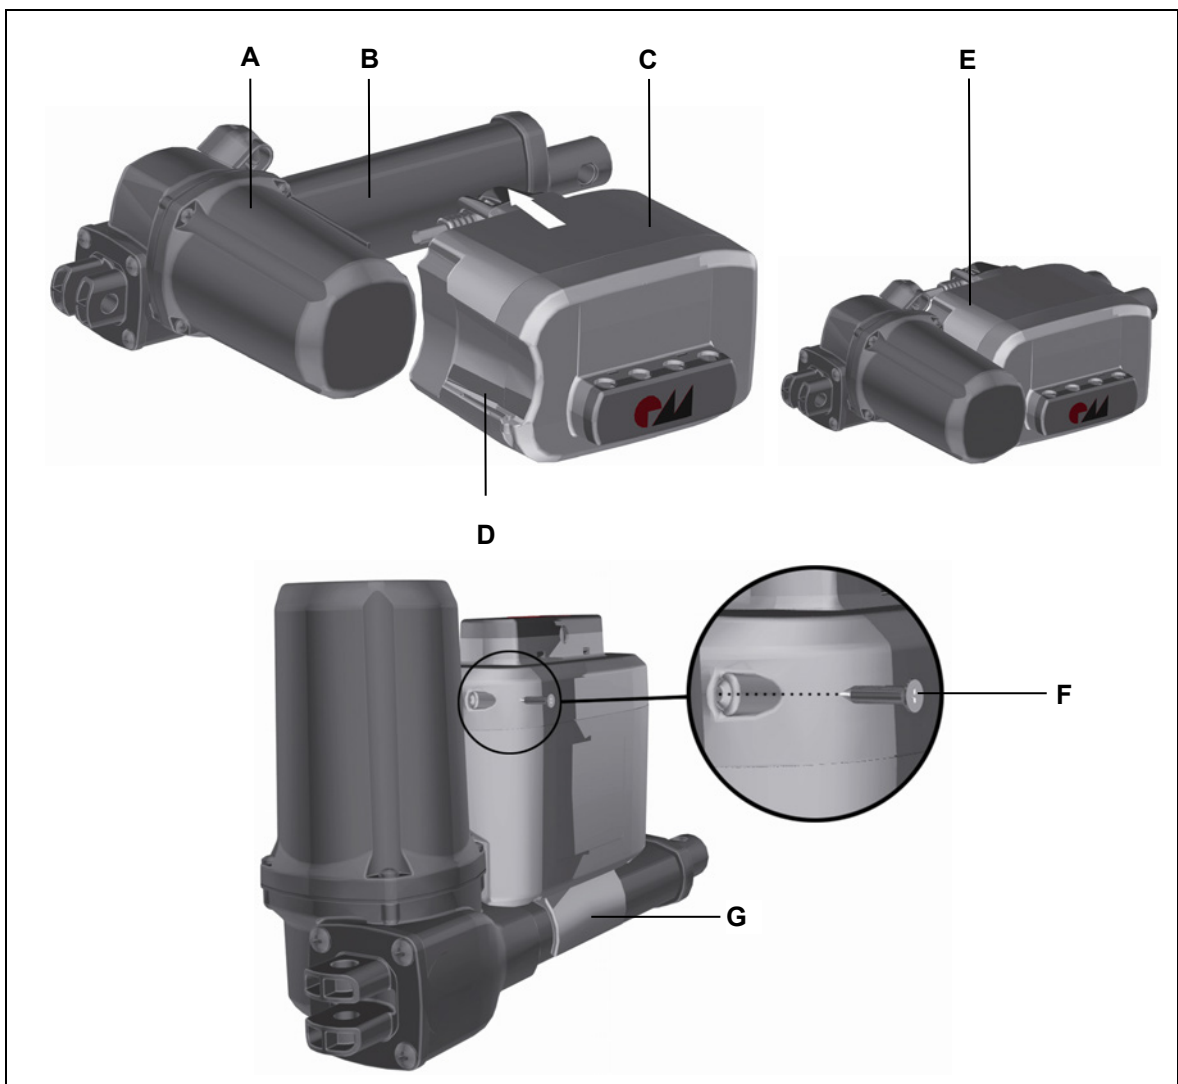

Figure 8 Installing the MC10 control unit
- 2 A screw can also be used to secure the MEGAMAT MLZ drive to the MC10 control unit. Tighten the screw (**F**), as shown in Figure 8. Use a fastening screw with the dimensions 3.5 mm x 13 mm (ISO 7049-ST).